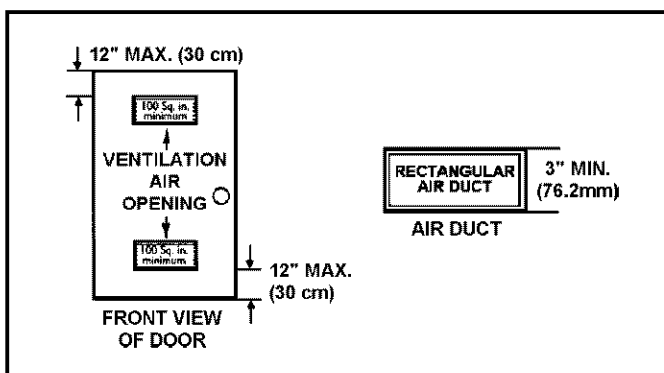
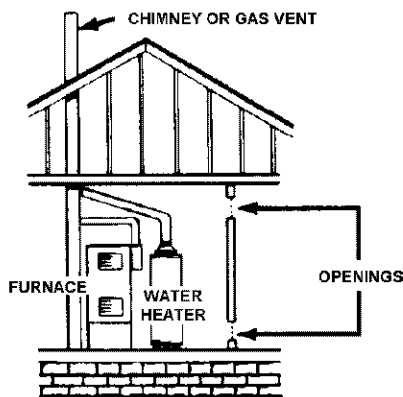

FIGURE 9.
FIGURE 10.
A gas water heater cannot operate properly without the correct amount of air for combustion, see Figure 9. Do not install in a confined area such as a closet, unless you provide air as shown in the *Locating The New Water Heater* section. Never obstruct the flow of ventilation air. If you have any doubts or questions at all, call your gas supplier. Failure to provide the proper amount of combustion air can result in a fire or explosion and cause death, serious bodily injury, or property damage.
(See Figure 9 on page 10 and Figure 10 below)
B. ALL AIR FROM OUTDOORS: (See Figures 9, 11, 12 and 13)